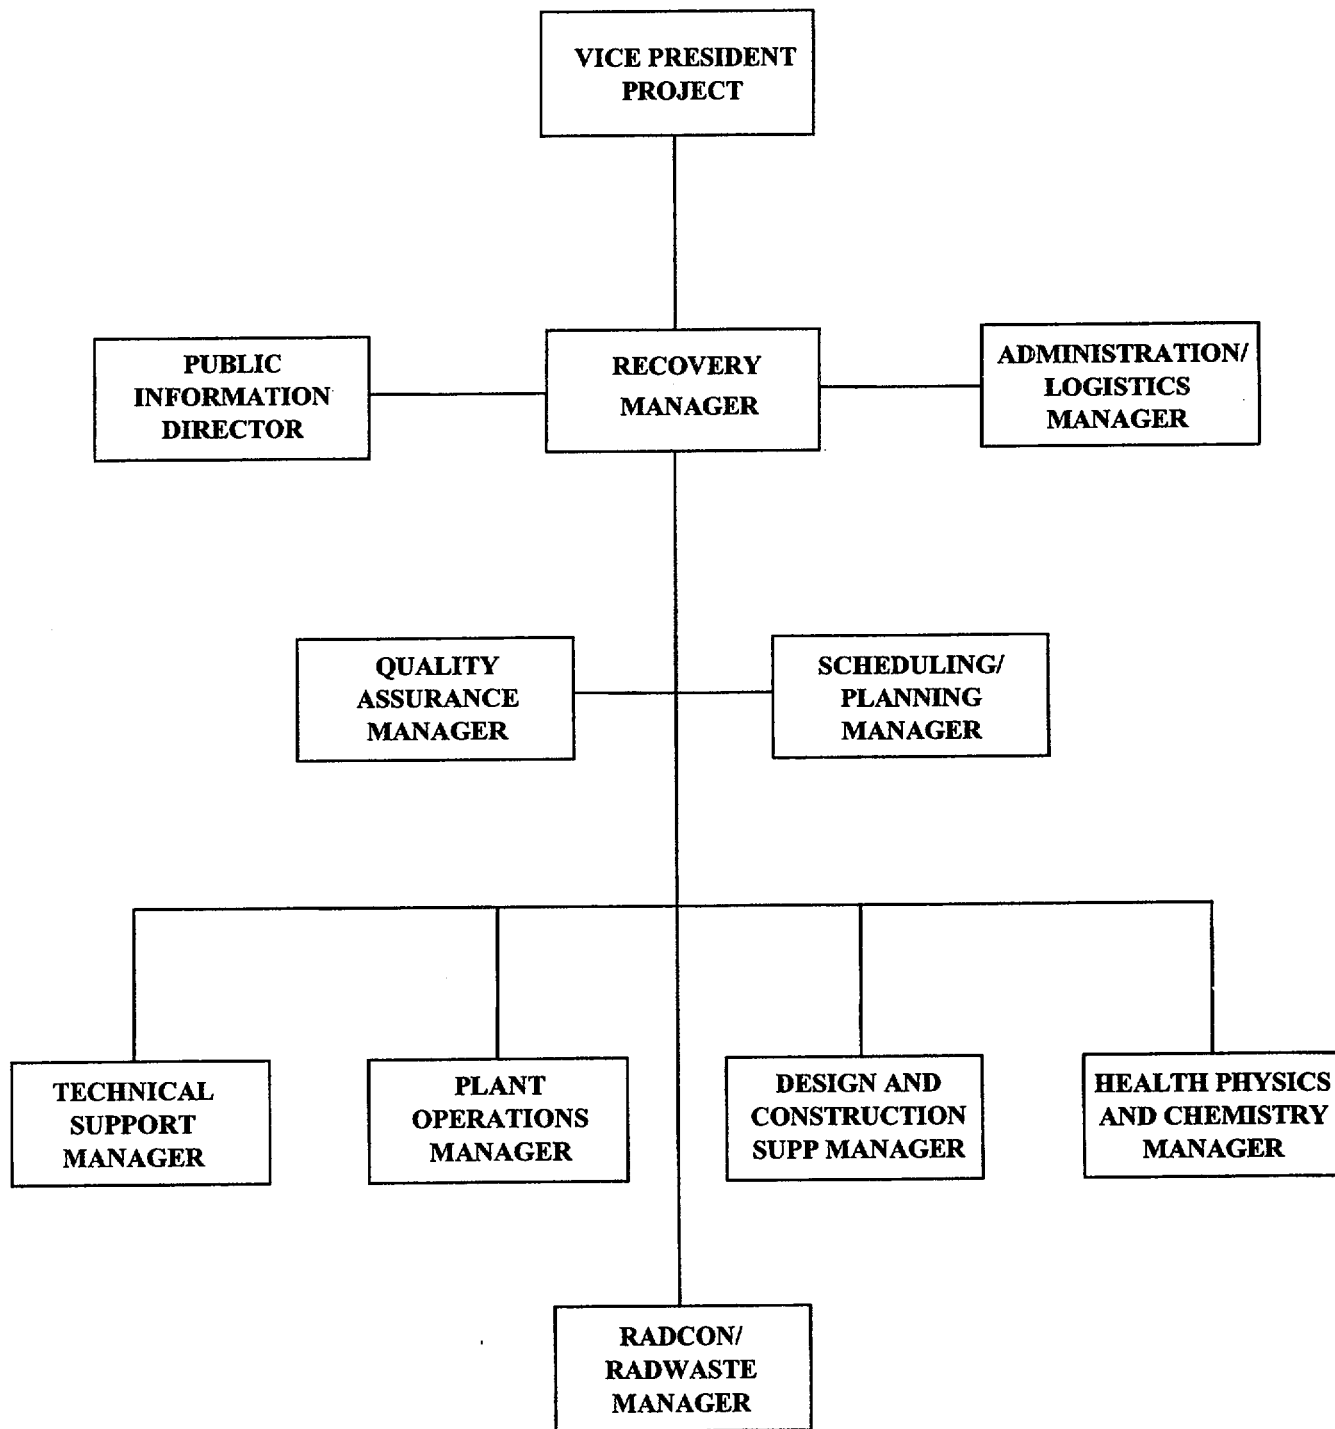

Figure 1
5.2.1	Figure 1 is an organization chart for recovery operations. Table 1 lists designees, reporting requirements and functions.